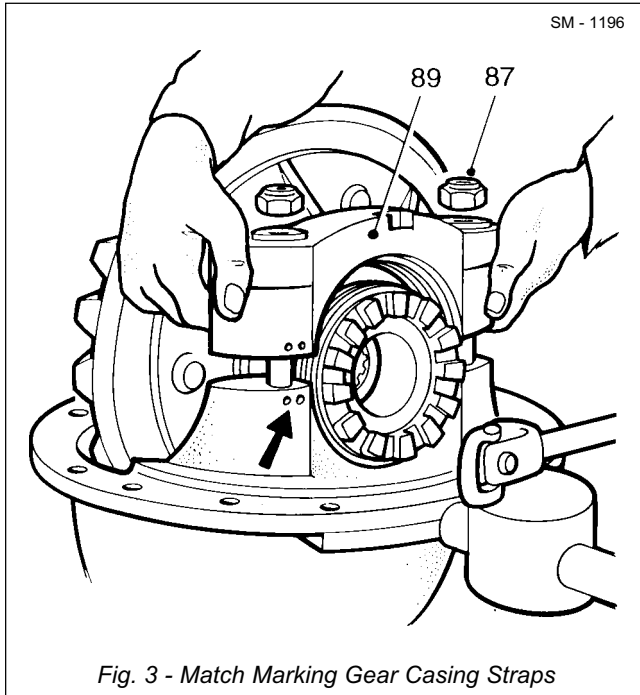
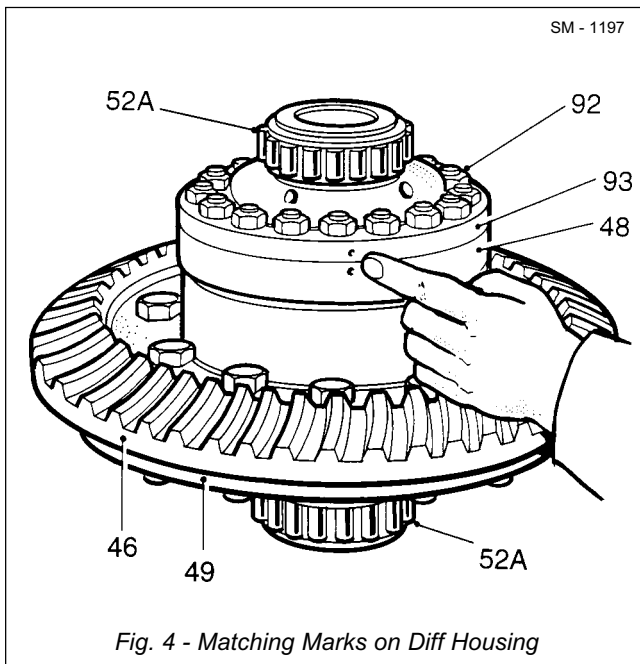

Fig. 3 - Match Marking Gear Casing Straps
Fig. 4 - Matching Marks on Diff Housing
1. Match mark straps (89) as shown in Fig. 3 to ensure correct rebuild position then remove nuts (87) and washers (88).
2. Lift off both straps (89), adjusting nuts (51) and split pins (90).
3. Lift complete differential and crownwheel assembly from gear casing (39). Place assembly on bench with crownwheel (46) teeth uppermost.
4. Check end flanges (49 & 93) and differential housing body (48) for identification and matching marks (See Fig. 4). If unmarked, centre punch parts to ensure correct mating on assembly.
5. Remove nuts (92) from studs (47) which fasten upper end flange (93) to differential housing body (48).
6. Lift off end flange (93) and thrust washer (53).